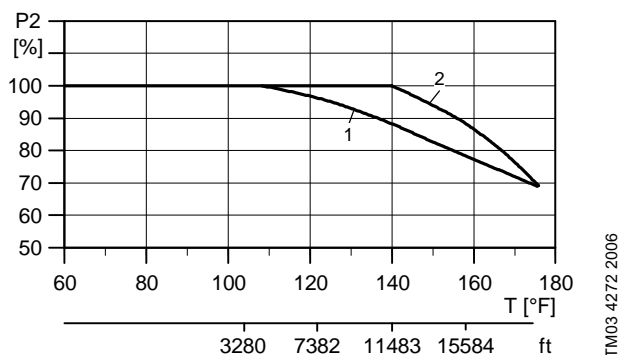

Fig. 3 Relationship between motor output (P2) and ambient temperature/altitude
**Example:** From fig. 3 it appears that P2 must be reduced to 88 % when a pump with a NEMA premium-efficiency ML motor is installed 15,584 feet above sea level. At an ambient temperature of 167 °F, P2 of a standard-efficiency motor must be reduced to 74 % of rated output.